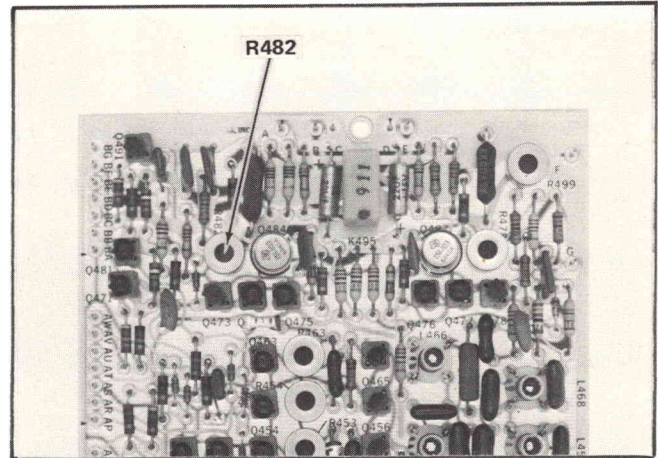

Fig. 5-22. Bar Drive and Video Out board adjustment locations.
k. **ADJUST—R482** (see Fig. 5-22) until the top of the bottom display just meets with the bottom of the top display.